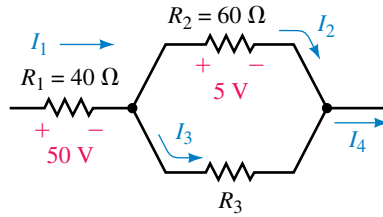

FIGURE 6-53
7. Consider the network of Figure 6-53: